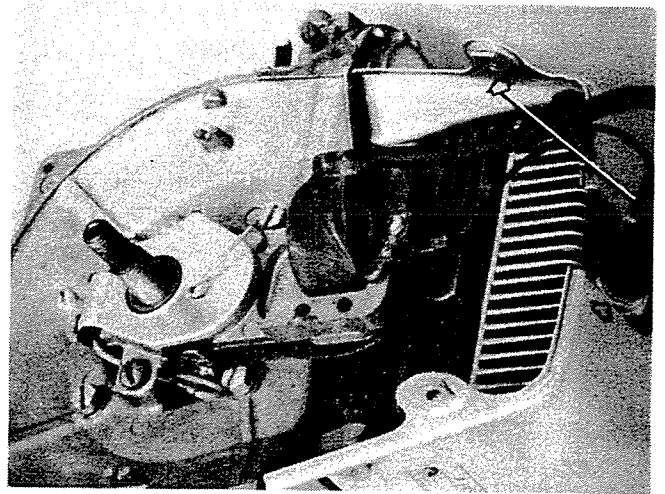

Figure 24. Connecting Coil Leads.
3. Connect coil leads. Figure 24.